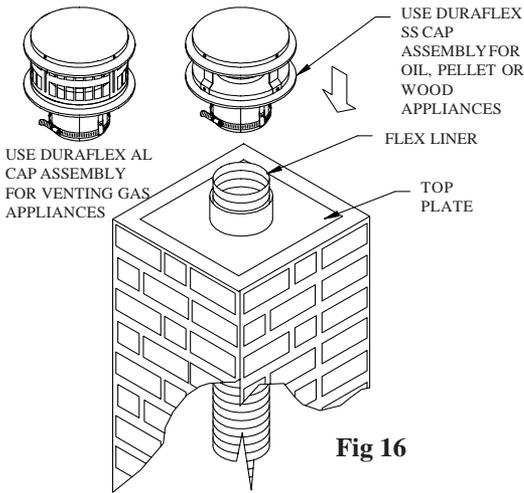

Fig 16
Step 3. After sealing the Top Plate to the masonry chimney, attach the DuraFlex SS Cap Assembly (or DuraFlex AL Cap Assembly if used on a gas appliance) to the Flex Liner and tighten the fast connect band, as shown in **Figure 16**. Push the Liner Cap down until it rests upon the Top Plate.